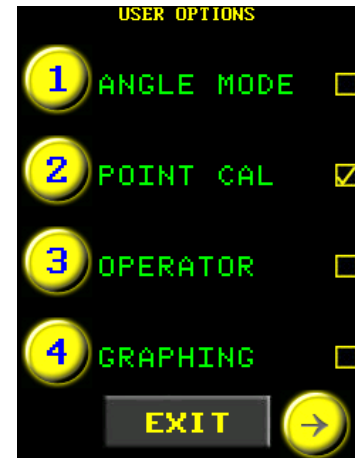

Figure 5.15-2: User Options Menu
3. Select **"Point Cal"** to toggle Point Calibration on or off (Figure 5.15-2).